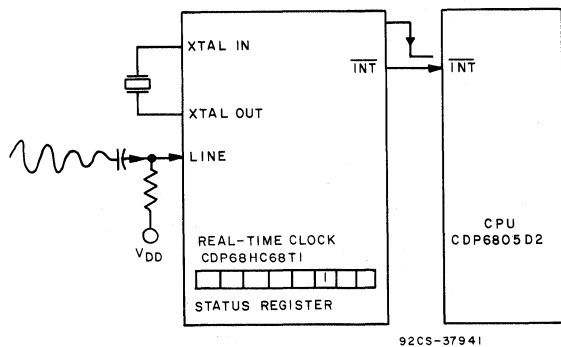

Fig. 3 - Power sensing functional diagram.
**POWER SENSING (See Fig. 3.)**